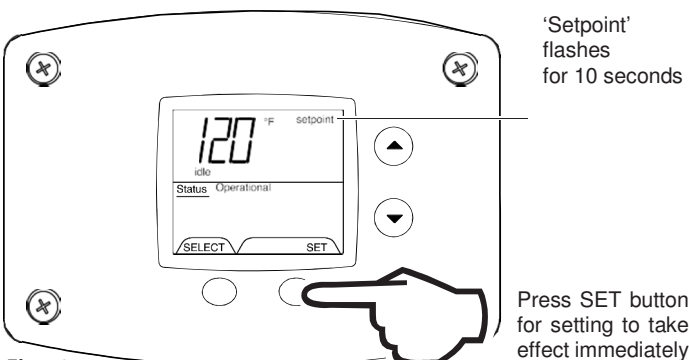

Fig. 18
3. Press 'SET' button for new setting to take effect immediately. 'Setpoint' will stop flashing. If the "SET" button is not pressed, the new temperature setting will take effect in approximately 10 seconds (Fig. 18).